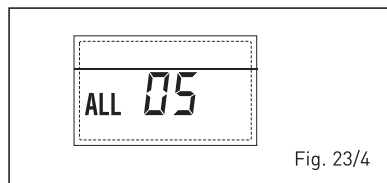

Fig. 23/4
– **BLOQUEIO CHAMA “ALL 06” (fig. 23/5)**